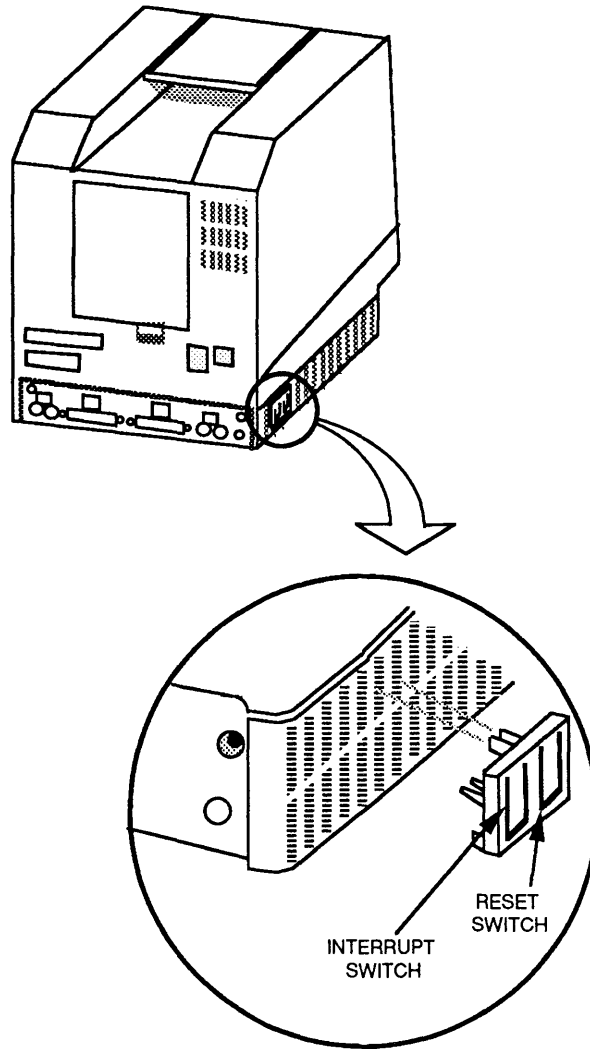

FIGURE 8
8. Verify that the programmer's switch (Figure 8) is installed. With the front of the UUT facing you, insert the two short tabs of the programmer's switch into the 6th and 7th **open** slots from the back, along the left side of the UUT. Push the switch until it snaps into place or you are certain it is secure.